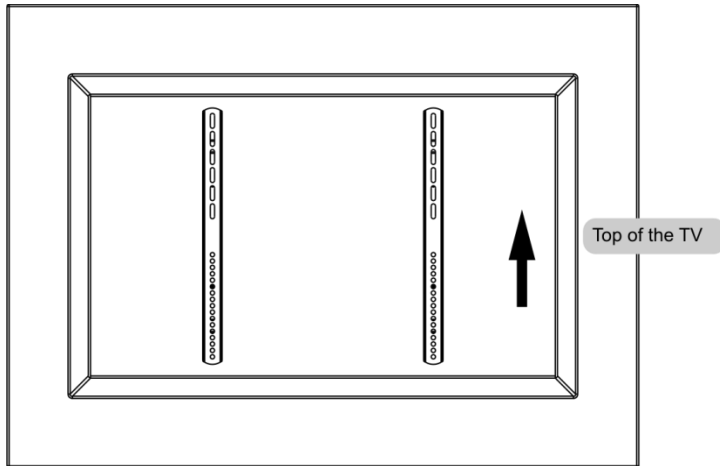

Fig. 04
- Place the TV screen face side down. Place the adapter brackets on the back of the screen, align the holes and center them on the back of the screen, as shown in Fig. 04.